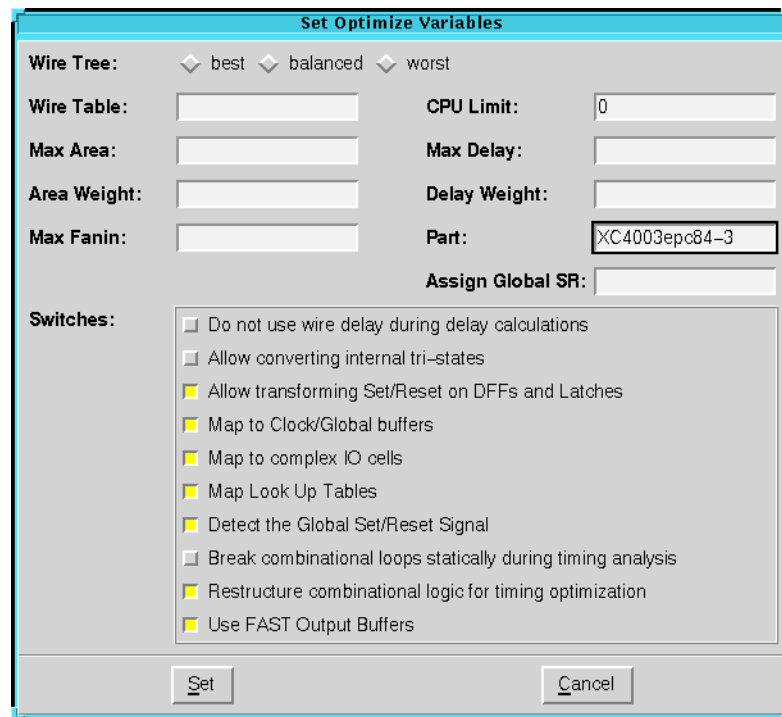

Figure 1-13 Set Optimize Variables Dialog Box
19. Click on the Advanced button in the Flow Guide window to open the Set Optimize Variables dialog box which is shown in the following figure 1-13.